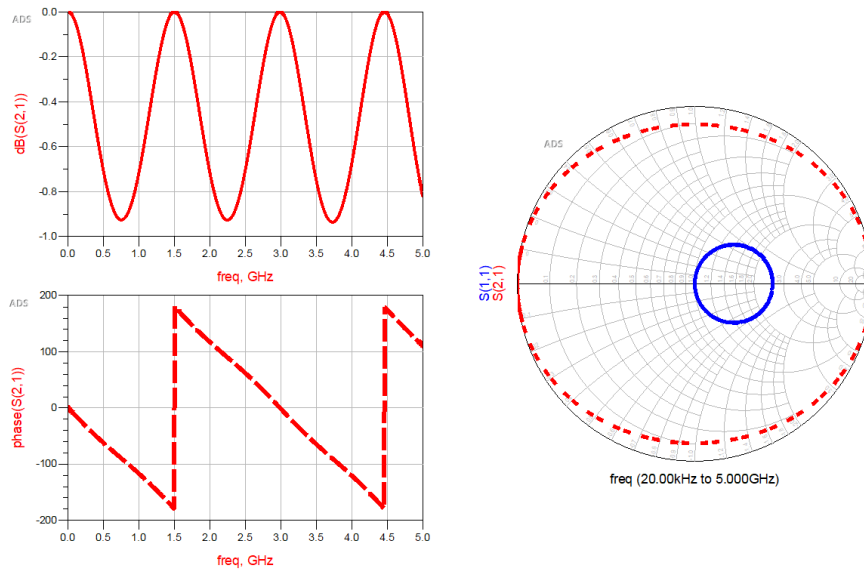

Figure 8: *Sparam1* Data Display.
2. Start the simulation. In the data display window, choose Rectangular Plot to plot out S_{21} (dB and $phase$). Choose Smith Plot to plot out both S_{11} and S_{21} . After that, double click on the traces to edit their properties: thickness, line type, etc. You may improvise the styles as long as the graph is clearly legible. For future labs, we will not remind you to do this step. However, it is your duty to label the graphs and making them easy to read. **Points will be deducted for any blur or messy plot.** Your results should match with the values showing in Figure 8. Take screenshot and include it in your report.